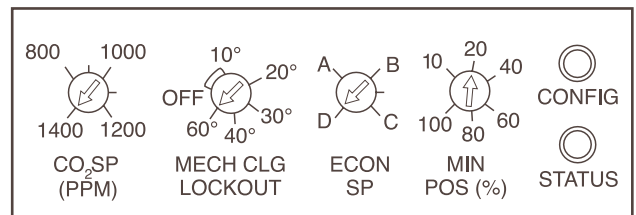

Fig. 40 — EconoMi\$er Control Adjustment Potentiometers (Factory Settings)
2. Locate the CO₂ SP (PPM) potentiometer and adjust to the desired set point. See Fig. 40.
Mechanical Cooling Lockout — Determine the outdoor-air temperature at which you want the mechanical cooling (compressors) to be disabled. Locate the mechanical cooling lockout (MECH CLG LOCKOUT) potentiometer. To disable this feature, turn the potentiometer counterclockwise (CCW) to the OFF position. Otherwise, set the value between -12 and 15 C (10 and 60 F). Mechanical cooling will not operate when the outdoor air temperature is below this value. See Fig. 40.
Dry Bulb Changeover Set Up — Determine the dry bulb changeover set point from Table 4. The settings are A, B, C and D. Locate the ECON SP potentiometer and set the dry bulb changeover set point. See Fig. 40. When the OAT is above this set point, the damper is limited to minimum position setting.
2. Locate the minimum position (MIN POS) potentiometer. Turn the potentiometer full CCW to fully close the outdoor air dampers. Turn the potentiometer gradually clockwise (CW) to the desired position. See Fig. 40.